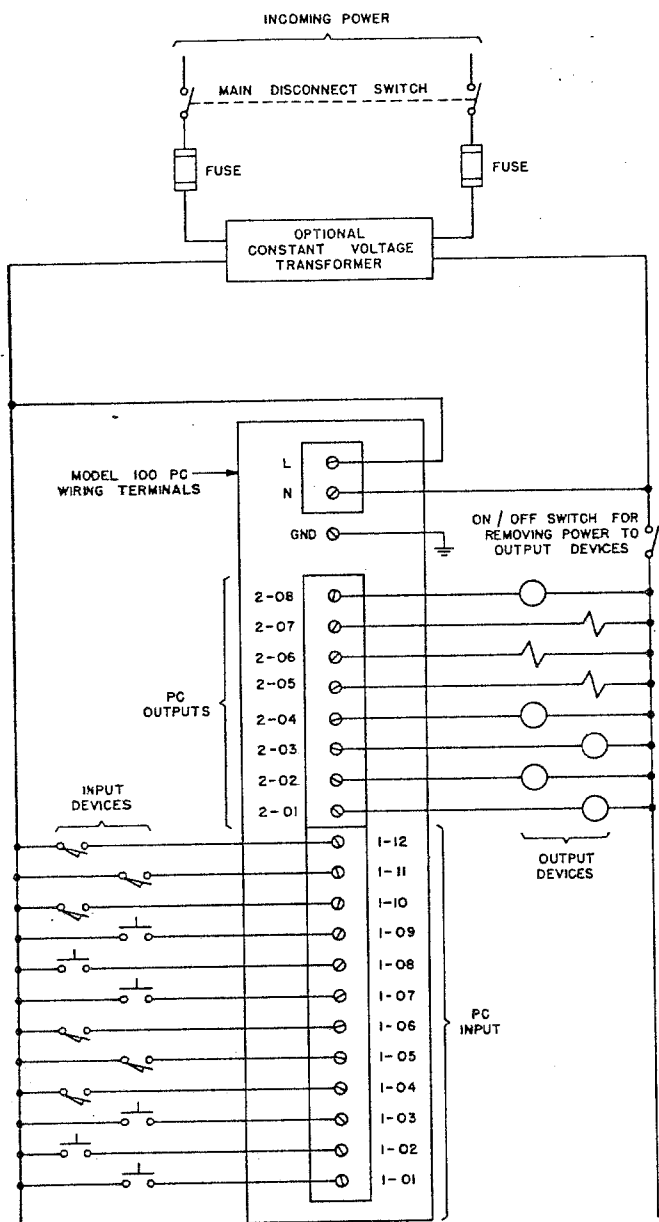
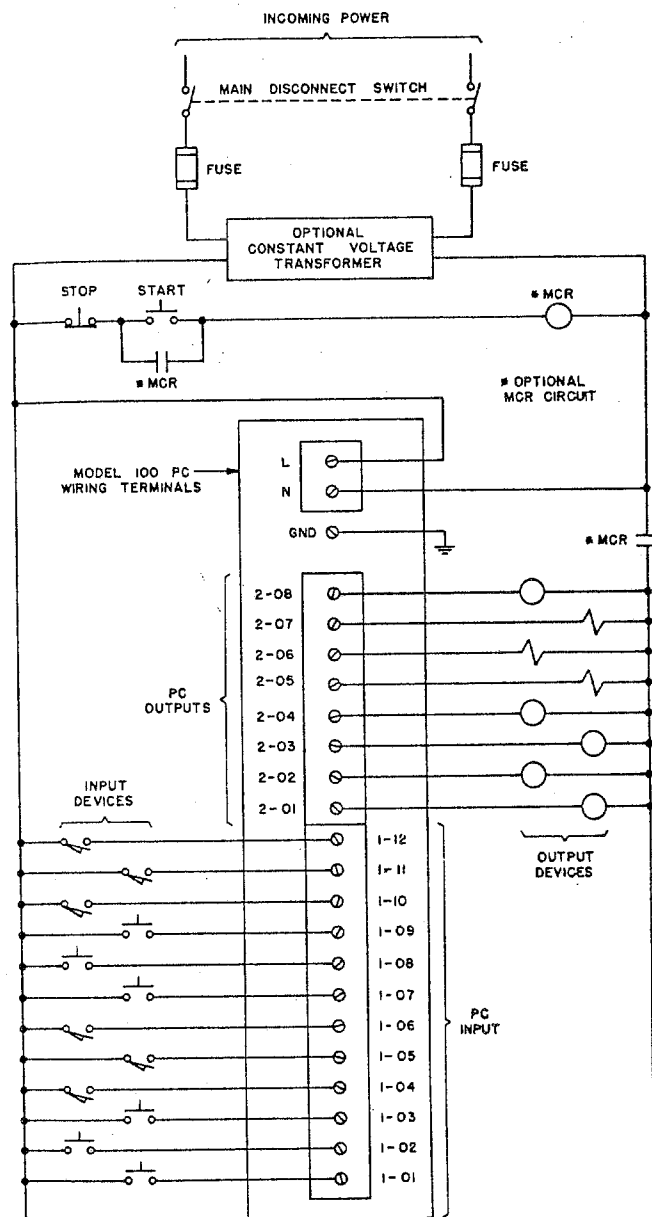

Figure 4.5 - Typical Wiring
Figure 4.6 - Typical Wiring - With MCR
All inputs share the N (Neutral) terminal and all outputs share the L (Line) terminal both of which are used for the incoming power to the Model 100 PC. See Figures 4.5, 4.6 and 4.7 for typical wiring information.
Input and output field devices are wired to the terminal blocks located on the front of the Model 100 PC. Typical wiring diagrams are shown in Figures 4.5, 4.6, and 4.7. Note that all I/O share the incoming power terminals as commons.
Incoming power is wired directly to the L, N, GND terminals on the front of the Model 100 PC. The terminals will accept one #12 or two #14 stranded or solid wires. Ring lugged wires may be used. A properly sized main disconnect switch should be used in the power circuit feeding the PC as a means to remove power. An on/off switch should be wired in the circuit feeding power to the field output devices. This will enable the removal of output power while leaving the PC and input devices operational for troubleshooting purposes. See Figure 4.5. Wire the power supply according to applicable electrical codes.
An optional Master Control Relay circuit may be added to the incoming power circuit in lieu of the output on/off switch. The MCR circuit provides protection by removing power to the outputs whenever a system power loss occurs. To supply power to the outputs after system power is regained, the start button must be depressed manually. Note: The processor would come back on-line automatically after resumption of power. See Figure 4.6.
If line voltage fluctuations occur that are greater than the power supply's input voltage range (see Section 2.0 - Specification) with a duration greater than the given power loss ride-through time, then a properly sized SOLA* Type CVS (Constant Voltage Transformer) or equivalent is recommended. When connected to the incoming service, the constant voltage transformer (CVT) will stabilize the voltage to the PC. See Figures 4.5, 4.6, and 4.7.
8. Close on/off switch or energize master control relay so that power is supplied to the output devices (see Figures 4.5, 4.6, and 4.7).
1. Remove power from all outputs by opening the on/off switch used to remove power to the output devices (see Figure 4.5) or by de-energizing the external MCR circuit (see Figures 4.6 and 4.7). Do not attempt to service the system in any way without taking this precaution.